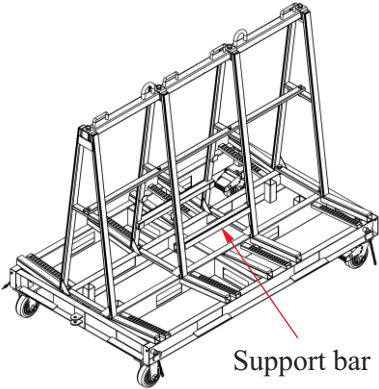

Figure 3.1
- Install the support bar to the appropriate position depending on the size of stone slabs (Figure 3.1 and 3.2)